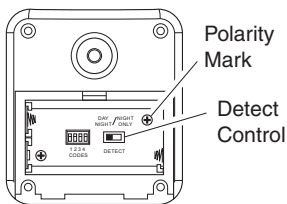

Figure 4 - Battery Compartment (Rear View)
Before mounting sensor, remove rear panel by sliding the panel down. Install 2 AA batteries according to polarity markings inside the battery compartment (see Figure 4). Replace rear panel by reversing the above instructions.
A. Set the DETECT control switch to DAY/NIGHT (see Figure 4) and